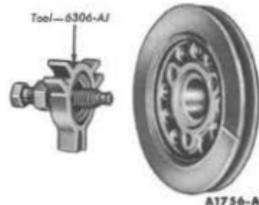

FIG. 5—Vibration Damper Installation
2. To install the crankshaft vibration damper, use Tool 6306-AJ shown in Figure 5.